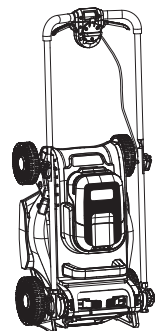

Fig. 24
- Store the lawn mower flat or upright (Fig. 24).